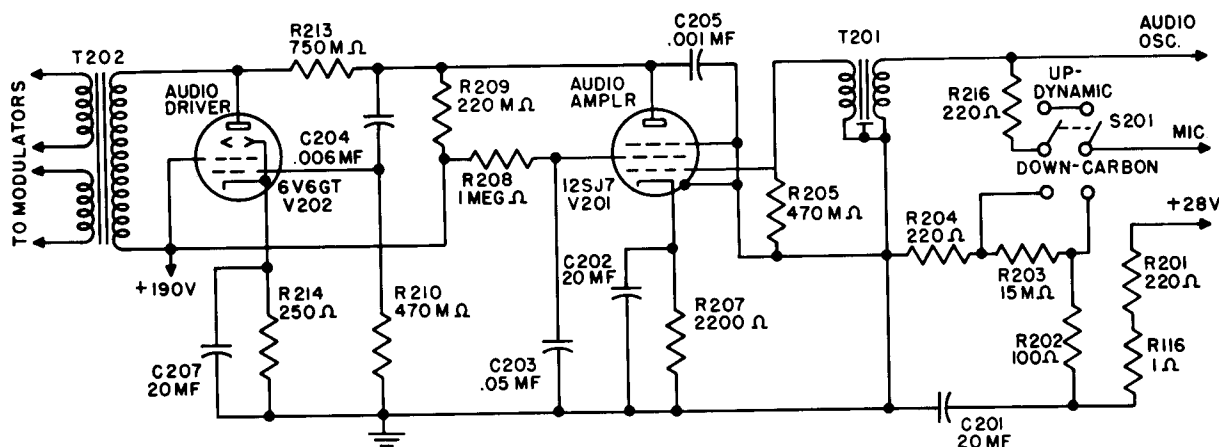

Figure 4-5. Speech Amplifier Circuit
The audio system consists of a two stage speech amplifier, push-pull modulators, a sidetone amplifier, and an MCW audio tone oscillator. Refer to figure 4-5. and 4-6.
a. SPEECH AMPLIFIER.—Either of two types of microphones may be used with this equipment. By operating microphone circuit selector switch S201, proper connections are made to the MICROPHONE jack, J102, (*figure 4-5.*) to match the output of either a carbon or dynamic type of microphone. This switch is located beneath the tuning chart on the front panel of the transmitter. If microphone circuit selector switch S201 is placed in the CARBON position, the bleeder composed of R201, R202, R203, and R204 connected between the positive terminal of the 28 volt DC power source and ground provides the voltage necessary for the operation of the carbon type of microphone. The operation of microphone circuit selector switch S201 also connects limiting resistor